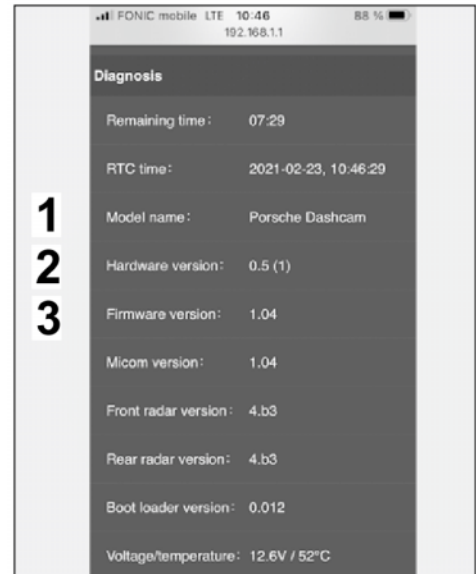

Figure 34
6.1 Information about the model name, hardware and software version, radar and more (⇒ *Figure 34*).